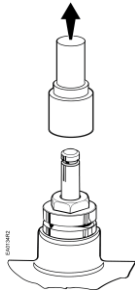

Figure 2. Preparing a New Valve for Installation.
1. For new valves, remove the cap from the valve stem. See Figure 2.